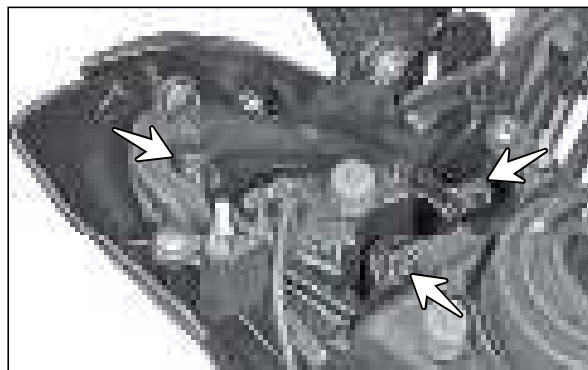

Fig. 5.80
- Remove the CRR flanged pan head tap screw (ST4.2x13 - 3 Nos.) and takeout the position lamp assembly LH. (Fig. 5.80)